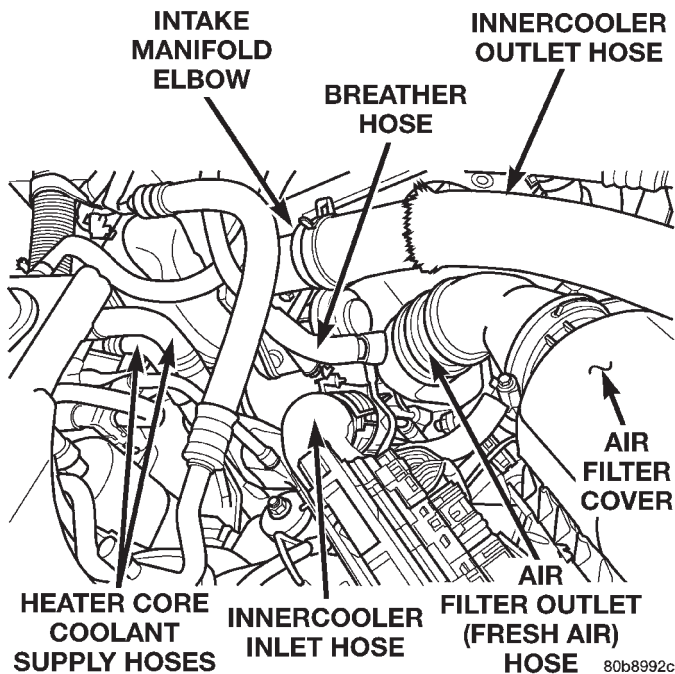

Fig. 6 Engine Compartment View — Diesel
- (1) Disconnect the negative battery cable.
- (2) Remove the innercooler inlet hose from the turbocharger and position it out of the way (Fig. 6).
- (3) Remove the right engine mount upper sill plate nuts.
- (4) Raise the vehicle on a hoist.
- (5) Remove the oil filter and adaptor from the engine.
- (6) Remove the engine mount throughbolt nut only. Do not remove the bolt at this time.
- (7) Position a jack stand and raise the weight off the right engine mount.
- (8) Remove the (2) engine mount lower sill plate bolts.
- (9) Remove the (4) engine mount bracket bolts from the engine block.